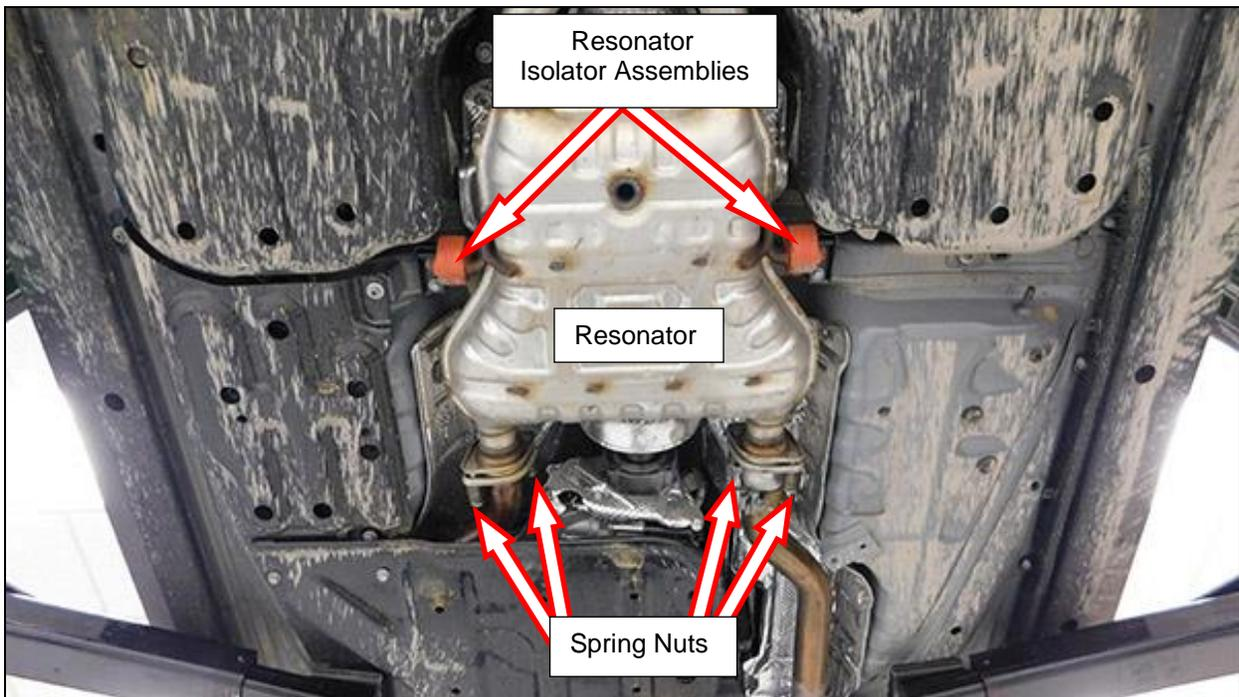

Figure 2
5. Support the resonator assembly. Remove the (x4) spring nuts from the connections at the resonator inlet. Remove the (x2) 13mm bolts at each resonator isolator assembly on the left and right side of the resonator (**Figure 2**).